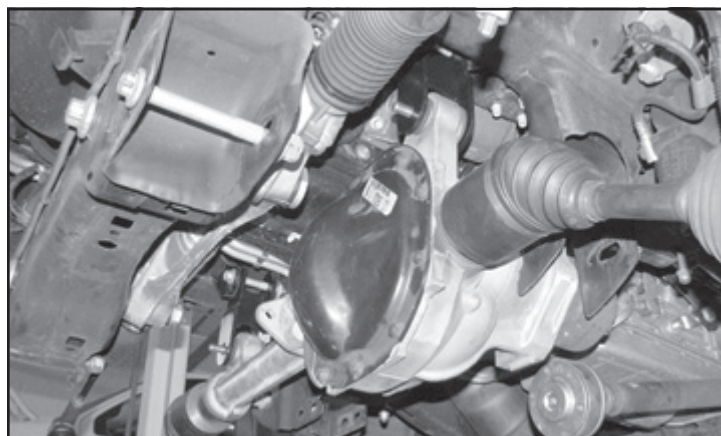

FIGURE 19 - STEP 22
22. Locate the factory front differential and install into the Fabtech upper differential mounts using two 1/2"-13 x 4" hex cap bolts, washers and lock nuts. Leave all hardware loose in preparation of the installation of the remaining differential mounts. **SEE FIGURE 19**